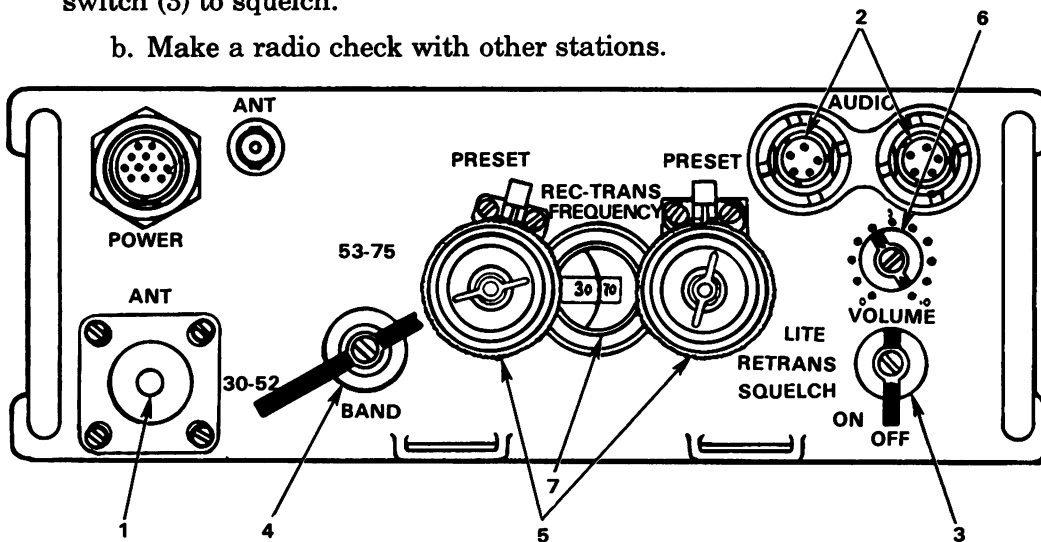

Figure 3.
3. To operate set (figure 3) (TM 11-5820-667-12, chap 3, pages 3-1 thru 3-7).
a. The numbers of steps 1 through 6 below relate to the numbers in figure 3.
(1) Install the antenna required for the type of operation in the antenna mount.
(2) Attach handset H-189/GR to either audio connector.
(3) Turn the function switch to on.
(4) Turn the band switch to the desired operating frequency band.
(5) Turn the MC tuning and KC tuning control knobs until desired frequency appears in the channel dial (7).
(6) Turn the volume control to 4.
(7) Press the handset H-189/GR push-to-talk switch and speak into handset; release the push-to-talk switch to listen.
(8) Adjust the volume control (6) for a desirable sound level.
(9) To reduce the rushing noise when no signal is being received, turn switch (3) to squelch.
- (3) Receiver-transmitter RT-871/PPC-77 (figure 3).